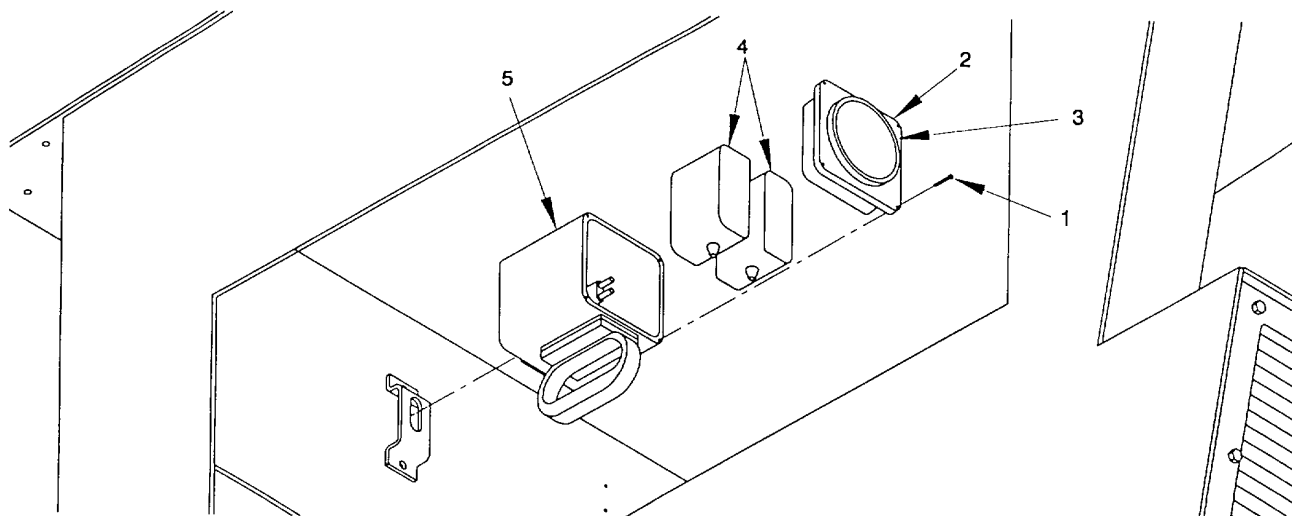

Figure 2-95. Battery, Battle Lantern, Remove/Install
Lamp**a. *Remove.*** (figure 2-95)
- (1) Remove four cover screws (1) and remove cover (2) from lamp (3) and body assembly (5).
- (2) Remove lamp (3) from body assembly (5). Replace lamp (3), as necessary.
- (3) Remove two batteries (4) from body assembly (5).
- (4) Dispose of batteries per appropriate MSDS.
b. *Install.* (figure 2-95)
- (1) Install new batteries (4) in body assembly (5).
- (2) Install lamp (3) in body assembly (5).
- (3) Install cover (2) on lamp (3) and body assembly (5). Secure cover (2) with four cover screws (1).